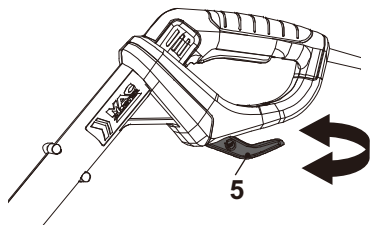

Fig. 27
3. Push the plant protector (13) in if necessary.
4. Rotate the cord container (rotatable) (5) and make sure that the tip of cord container (rotatable) (5) is pointed backward (Fig. 27).